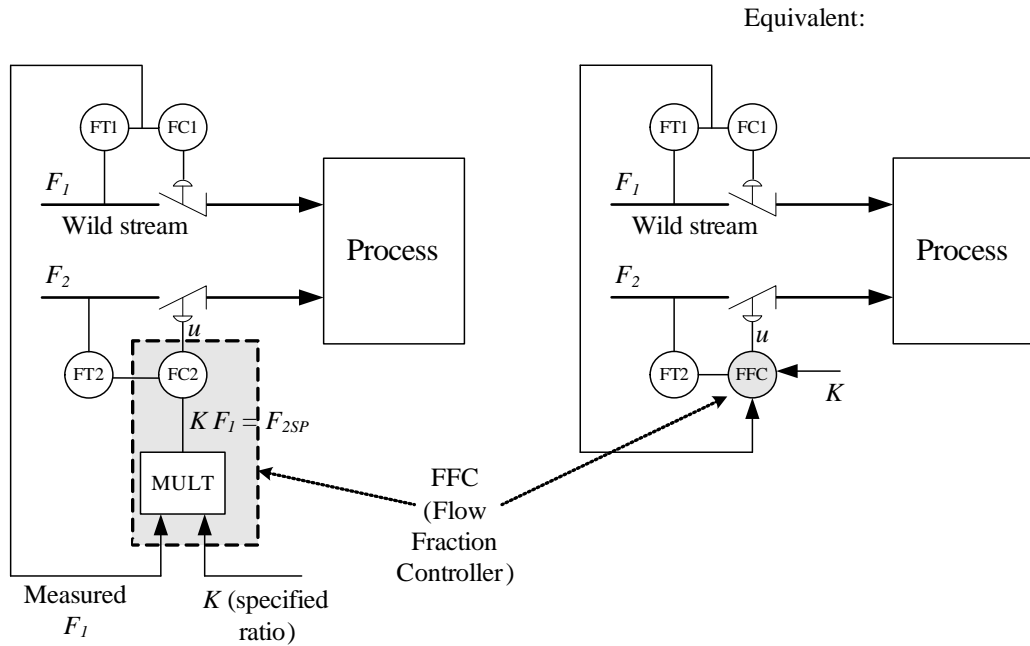

Figure 4: Ratio control
7. (5%) In Figure 4, the left diagram shows the structure of a ratio control system in detail, while the right diagram shows a compact
The purpose of ratio control is to control a mass flow,  $F_2$  in Figure 4, so that the ratio between this flow and another flow,  $F_1$ , is